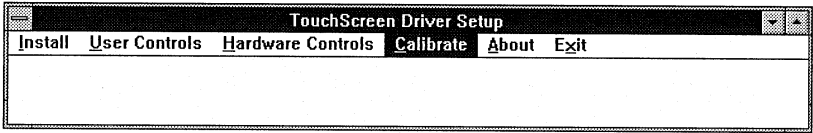

fig. A-9
2. Choose **Calibrate** from the TouchScreen Driver Setup menu (fig. A-9).